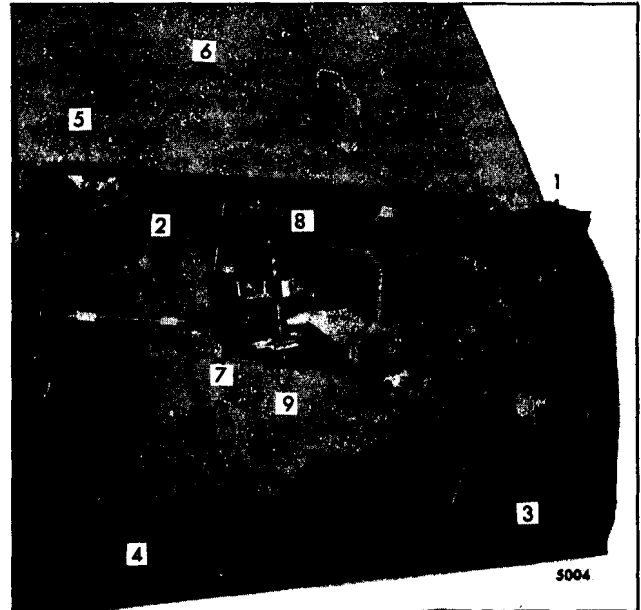
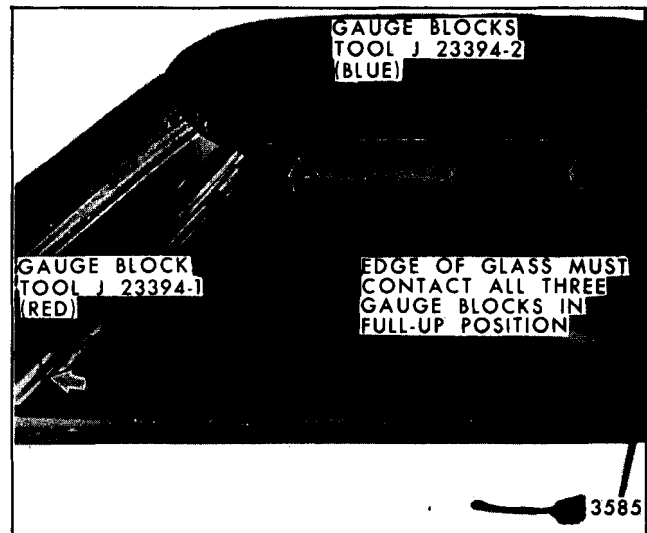
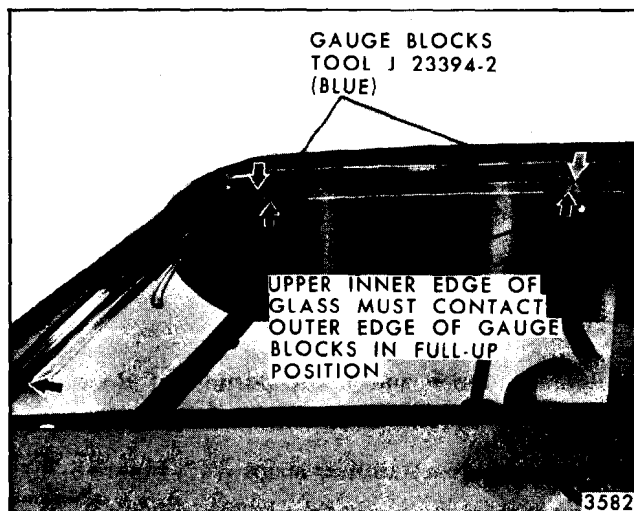

Fig. 6-71-Front Door Window Removal and Adjustment - "A-37, 57, 67 and 87" Styles
Figure 6-74-Front Door Window Alignment (Fore and Aft and Rotated "Cocked Glass" in Body Opening Adjustment)
Figure 6-75-Front Door Window Alignment (In and Out and Up-Travel Adjustment)
2. Remove front and rear up-travel stops ("1 and 2", Figure 6-71) and front and rear stabilizer strips ("6", Figure 6-71).
NOTE: Removal of rear stabilizer strip necessitates removal of trim pad adjusting plate ("5", Figure 6-71).
3. Remove lower sash guide plate assembly to glass attaching bolts ("7", Figure 6-71). Tilt upper edge of glass inboard to disengage glass from guide plate, then remove the window from the door by lifting straight-up.
1. In And Out Adjustment of the glass is controlled by the in and out adjustment available at the front door window lower sash lower guide ("9", Figure 6-71) and the in and out position of the glass stabilizer strip assemblies ("6", Figure 6-71). The lower sash lower guide assembly and stabilizer strips are slotted to permit in and out adjustment of the glass. Outboard adjustment of the lower sash lower guide moves the top of the glass inboard. Conversely, inboard adjustment moves the top of the glass outboard.
2. Fore And Aft Adjustment of the window assembly is controlled by the position of the lower sash channel guide plate assembly ("7", Figure 6-71). The guide plate to glass attaching locations are slotted to permit fore and aft adjustment of the glass.
3. Ease Of Window Operation And Window Stability depend to a great extent on the adjustment of the window stabilizer strip assemblies at the beltline ("6", Figure 6-71). The stabilizing strips ("6") should contact the glass throughout the full cycle of the window. Due to slight variations in glass contour, however, in some cases the strip may lose contact with the glass halfway through the cycle. This is permissible provided it does not result in loose glass. Contact should be sufficient to stabilize glass, but not restrict ease of window operation.
Window Opening may be the result of an improperly adjusted lower sash upper guide assembly ("8", Figure 6-71) or poorly adjusted up-travel stops ("1" and "2", Figure 6-71).
Correct a poorly adjusted lower sash upper guide assembly by loosening upper guide assembly attaching bolts ("8", Figure 6-71) and rotating front edge of glass up or down in relation to rear edge of glass as necessary.
5. Up-travel Of The Window is determined by the adjustment of the front and rear window up-travel stops ("1" and "2", Figure 6-71). To adjust window up-travel, loosen front and rear up-stops
6. Down-travel of the window is determined by the position of the front and rear window down-travel bumper supports ("3" and "4", Figure 6-71). To adjust window down-travel, loosen front and rear window bumpers and lower window to desired glass height. Then, position front and rear bumper against lower edge of glass and tighten bumper attaching bolts.
2. Detach side roof rail weatherstrip at lower front corner and carefully remove from retainer over front door window as shown in Figure 6-74.
3. Lower front door and rear quarter windows and install gauge blocks, tool J-23394-2 (blue) or equivalent into side roof rail weatherstrip retainer above upper front and rear corners of glass as shown in Figure 6-74. Then, install gauge block, tool J-23394-1 (red) or equivalent into windshield pillar retainer slightly above beltline.
4. Working from inside body, with door in closed position, loosen front and rear up-travel stops ("1" and "2", Figure 6-71) and stabilizer strips ("6", Figure 6-71).
If upper and forward edge of glass contact all three gauge blocks simultaneously (as shown in Figure 6-74), proceed with step number six (6). If, however, upper and forward edge of glass does not contact all three blocks simultaneously, completely loosen lower sash channel guide plate ("7" Figure 6-71) and lower sash upper guide assembly ("8" Figure 6-71) and manipulate glass by hand until upper and forward edge of glass contacts all three gauge blocks in full-up position (as shown in Figure 6-71). Tighten guide plate and upper guide assembly attaching bolts.
6. Loosen lower sash lower guide assembly ("9", Figure 6-71). Apply firm outboard pressure against bottom of lower sash guide plate assembly to remove slack in system and to hold upper inner edge of glass inboard against outer edge of gauge blocks, as shown in Figure 6-75. Then, tighten lower guide assembly attaching bolts.
7. With glass in full-up position against the upper gauge blocks as shown in Figure 6-75, tighten adjustable up-travel stops on glass (Figure 6-71) against inner panel. Adjust stabilizer strips ("6", Figure 6-71) for proper tension against glass.